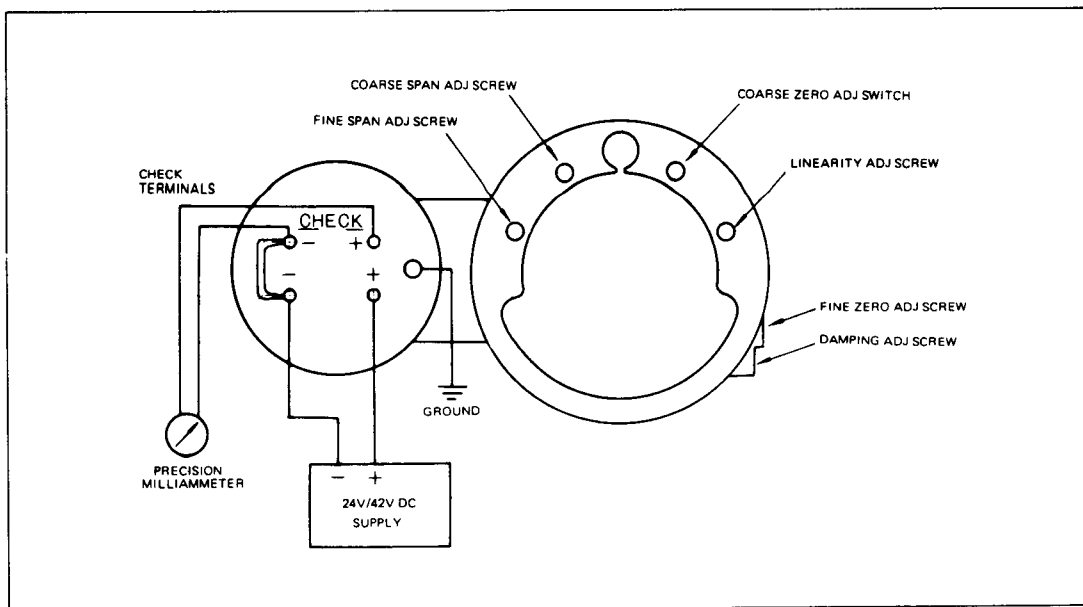

Figure 1. Calibration setup and adjustments
- 2.3.3 When zero adjustment more than that can be covered with the fine zero adjustment screw is required after disassembling and reassembling the instrument or replacing the amplifier or when the zero point is required to be largely varied for elevation or suppression, make zero adjustment with the internal coarse zero adjustment switch (see Figure 1) and the external fine zero adjustment screw in the following procedure:
2.4.3 Adjust the output at 20 mA with the coarse and fine span adjustment screws in the case with a screwdriver. (See Figure 1.) Then, shift* the output by the amount calculated in Step 2.4.2.